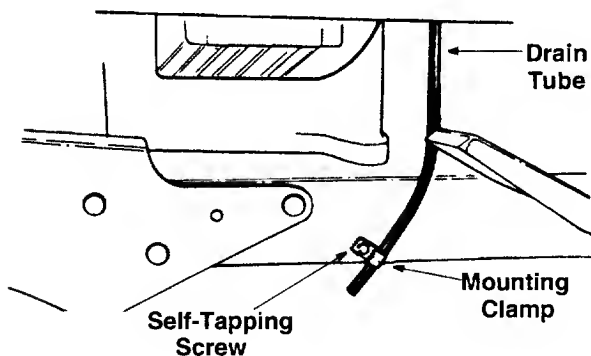

Figure 18
5. Route the battery drain tube over to the left side of the tractor. Loosen the self-tapping screw which secures the mounting clamp. See Figure 18. Slip the end of the drain tube into the mounting clamp. Tighten the self-tapping screw to secure the clamp. Do not overtighten which could collapse the drain tube.